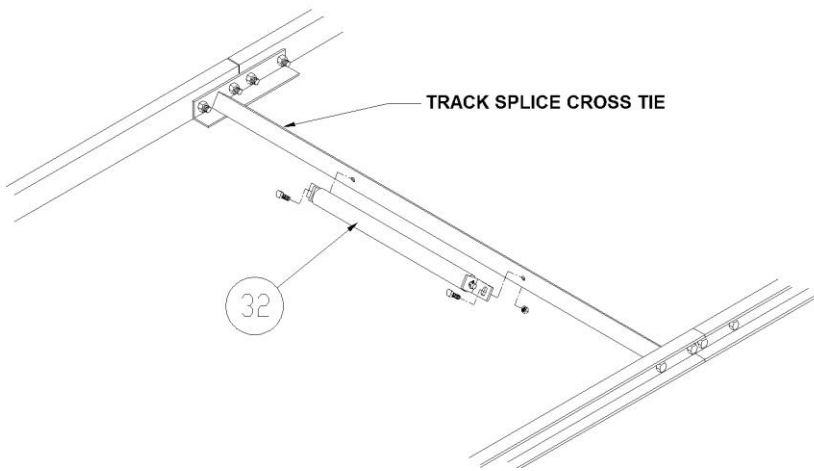

Figure 3-9.
1. Refer to Figure 3-9. Attach the cable support rollers to the track splice cross ties as shown. This will stop the cable from rubbing on the cross ties while the unit operates.